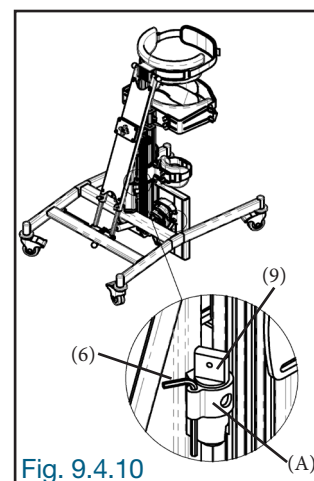

Fig. 9.4.10
9.4.10 Insert the Allen key (6) as well as the tightening key (9) into the tool holder (A) provided for this purpose (Fig. 9.4.10).